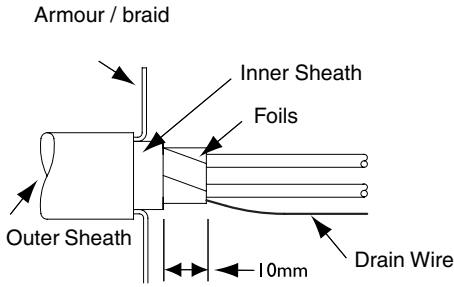

Fig. 4
- 3.3. Cut back a further 10 mm of inner sheath (See Fig. 4).